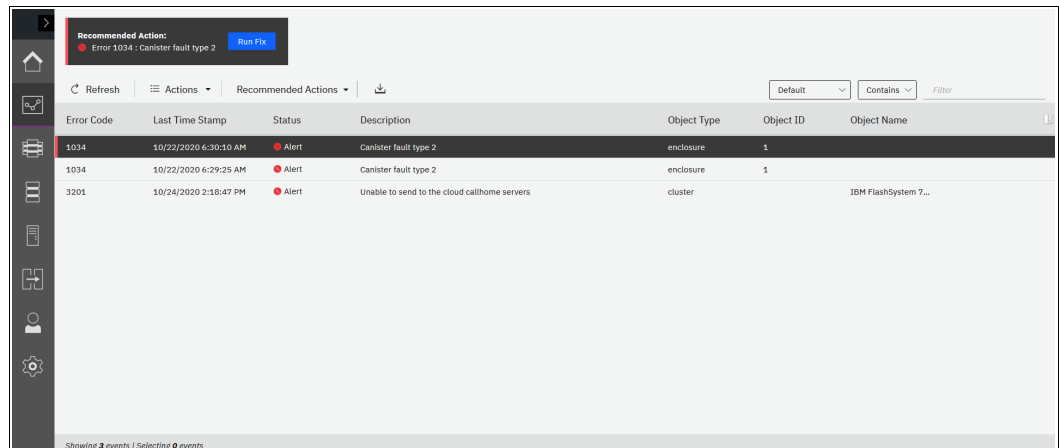

Figure 13-34 Recommended Actions
2. Select **Recommended Actions** from the drop-down list to display the most important events to be resolved (see Figure 13-34). The **Recommended Actions** tab shows the highest priority maintenance procedure that must be run. Use the troubleshooting wizard so that the system can determine the proper order of maintenance procedures.